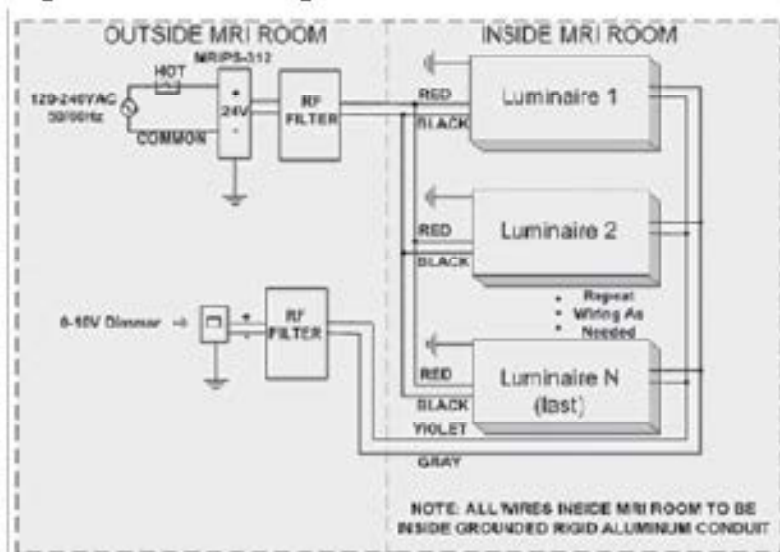

FIGURE 4
4. Run the 24VDC supply from the EMI filter to the luminaire(s) using at least 18 AWG wires rated at least 90C. See Figure 4. Class 1 wiring is required. Make sure wiring is completely enclosed in grounded aluminum conduit. Any gaps, regardless of size, must be closed or wrapped in copper foil tape. Special attention should be paid to the wiring entry point into the shielded space.
7. Make DC supply and (optional) dimmer control connections within each luminaire. Cap gray and violet leads if dimmer is not connected. See Figure 4.